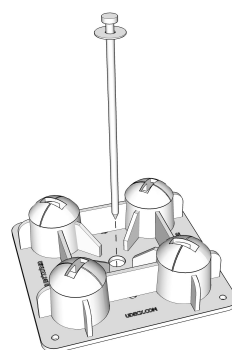

Fig. 5
- 3.** Place an Anchor Spike (D) through the center of the 1" hole in the Pier (A). (Fig. 5) Install the Anchor Spike (D) with a hammer or hand sledge. **(NOTE: Be very careful not to hit the Pier (A) with a hammer, hand sledge or other tool that might damage the Pier (A).)**